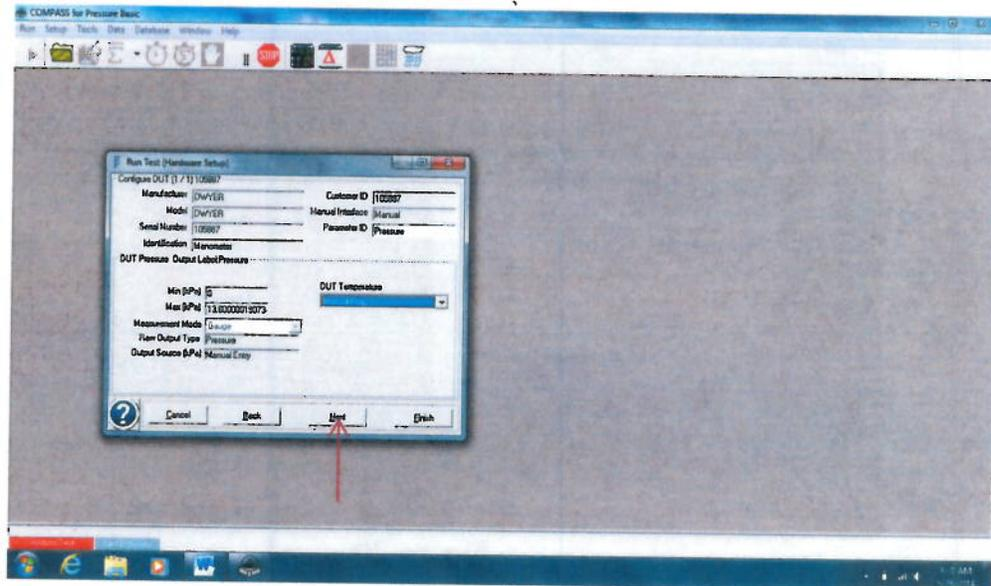

Figure 18
- 11.18 The window allows you to verify the hardware setup. This information does not change. Click on the “Next” button. See Figure 18.